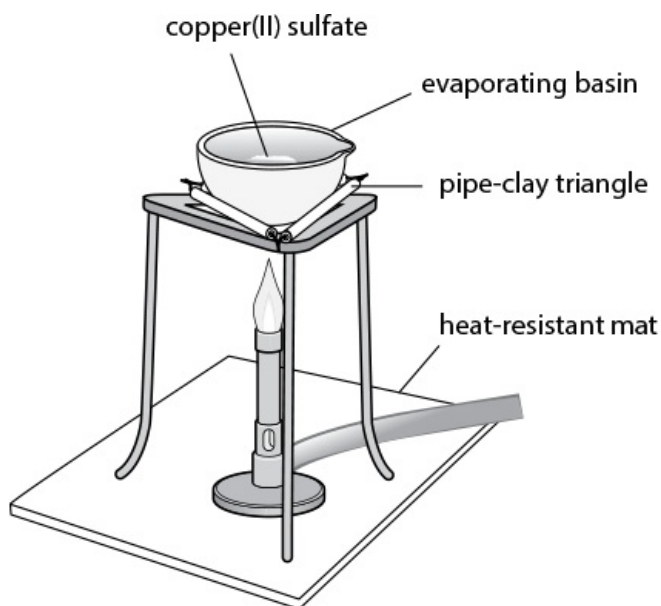

Figure 1.1: Heating a solid
- 2 Put the pipe-clay triangle and the evaporating basin containing your crystals on the tripod as shown in Figure 1.1.